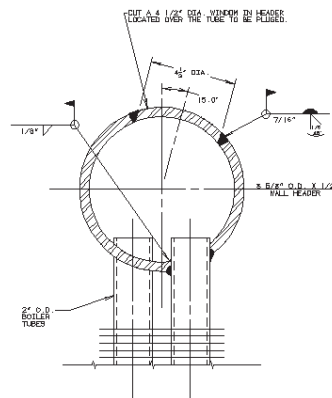

Figure 4.2 Typical Header Oval Removal
4.4.3 Cut an oval section in from the top and bottom headers directly above the leaking tube (See Figure 4.2). Access to the top and bottom headers is provided through access doors in the attic and basement spaces.